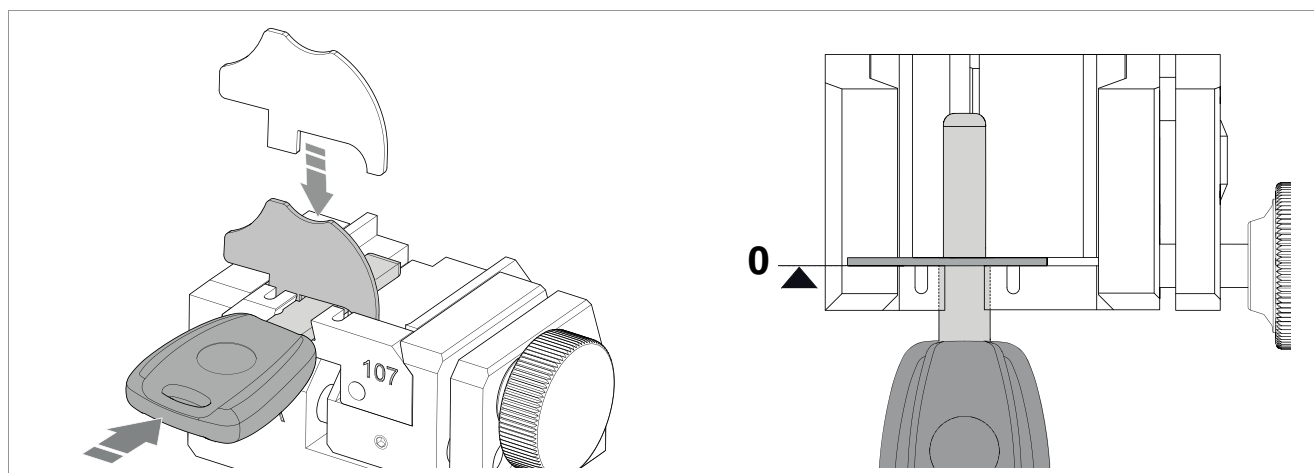
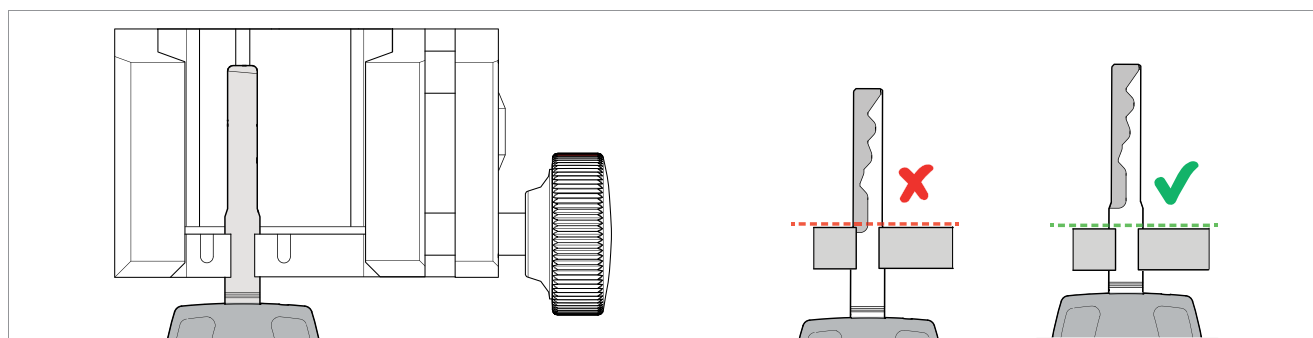

Fig. 33 - KEYS WITH STOPS
Fig. 38 - KEYS WITH TIP REFERENCE
- **clamp stop (Fig. 33 and Fig. 38)**
Position the key with the stops up against the special stop bar (Stop "0") (Fig. 33).
- 2) Insert the key to be cut, making sure it sits flat on the surface, and take the stop up against the bar (Fig. 33).
- 3) Tighten the knob (M) to secure the key.
Position the key as wished, bearing in mind that cutting (existing or to be done) must begin beyond the locking line/zone (Fig. 38).